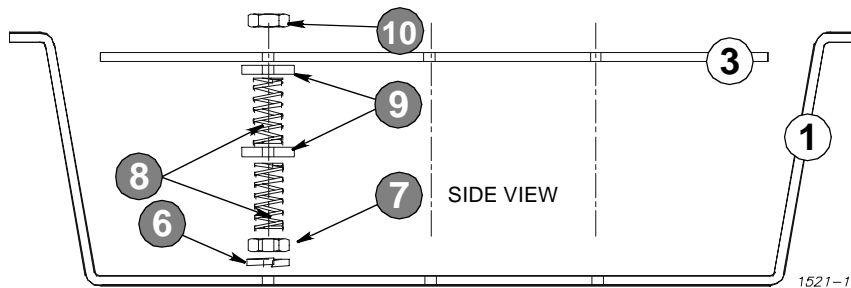

Figure 2.
3. Slip a Weatherseal Washer (Item 5) onto the 1/4 x 2 1/2" Hex Head Bolt (Item 4) and put the Bolt through the Lid, Bolt head on the **outside** (top) of the Lid. See **Figure 2**.